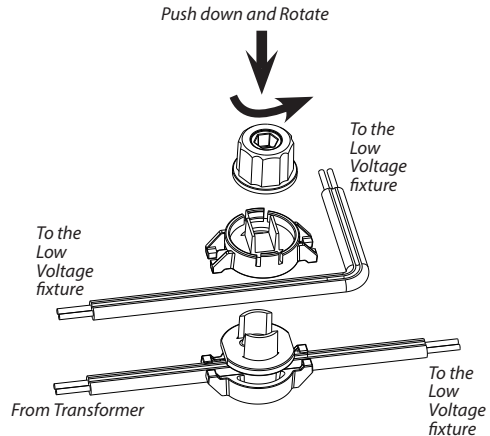

Fig. 1
2. Feed one of the cable through lower channel and another through the upper channel as shown in Fig. 1.